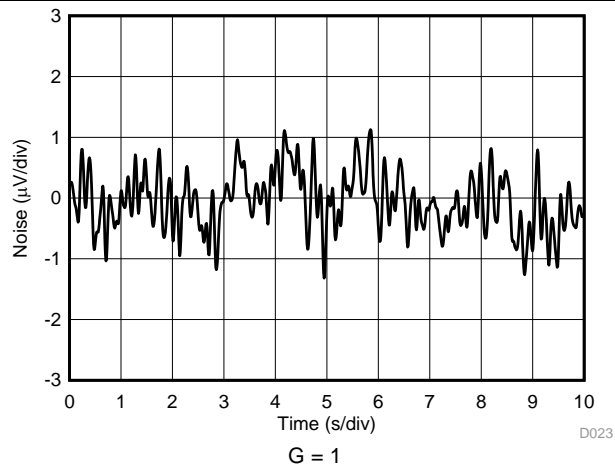

Figure 24. 0.1-Hz to 10-Hz RTI Voltage Noise
0.1-Hz to 10-Hz RTI Voltage Noise $G = 1$	Figure 24